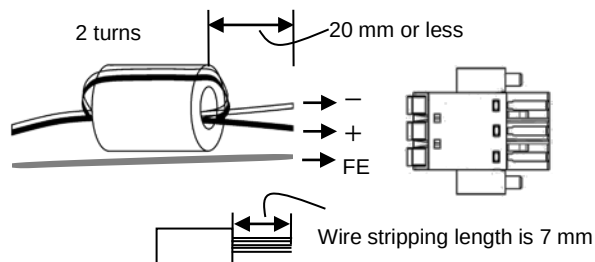

Figure 5 Assembly of power cable
- Assemble the power supply cable according to Figure 5.